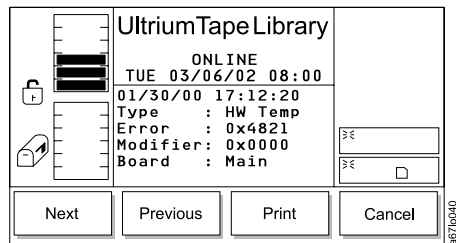

Figure 118. Error Log Dialog
3. Press the button below the **Error Log** softkey. The Error Log Dialog displays (see Figure 118 on page 119).